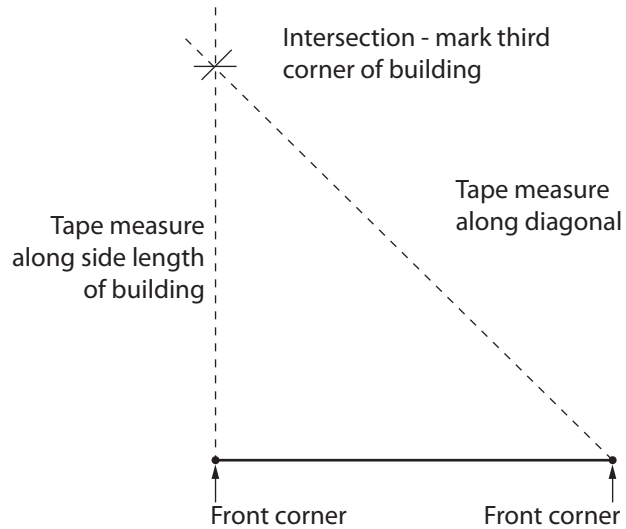

Figure 2 — Locating the third corner
2. From one front corner, run a tape measure the side length of the building. From the other front corner, run another tape measure the length of the diagonal (Figure 2).